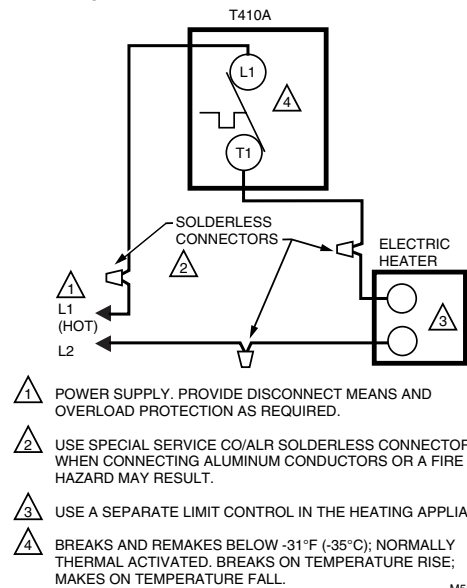

Fig. 2. Typical wiring connections for T410A.
4. Do not remove the T410 Thermostat Cover. Using wire connectors approved for No. 12 wires, make line voltage connections directly to the leadwires on the thermostat. See Figs. 2 and 3 for typical wiring connections.
- 3 Do not remove the T410 Thermostat Cover. Using wire connectors approved for No. 12 wires, make line voltage connections directly to the leadwires on the thermostat. See Figs. 2 and 3 for typical wiring connections.